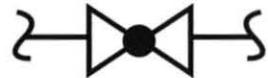

Figure 32. Valve Symbol
10. Determine the type of valve or actuator symbol depicted in figure 32.